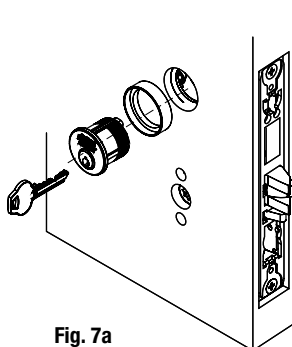

Fig. 7a
- Slide cylinder through collar. Thread cylinder into lock body (Fig. 7a).